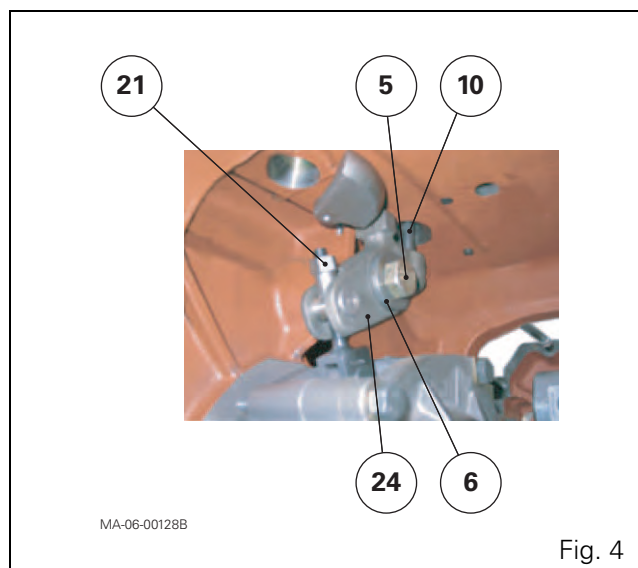

Fig. 4
5. Remove (Fig. 4):
- the nut (21);
- the push rod (10);
- the M20 screw (5);
- the washer (6);
- the actuator lever (24).